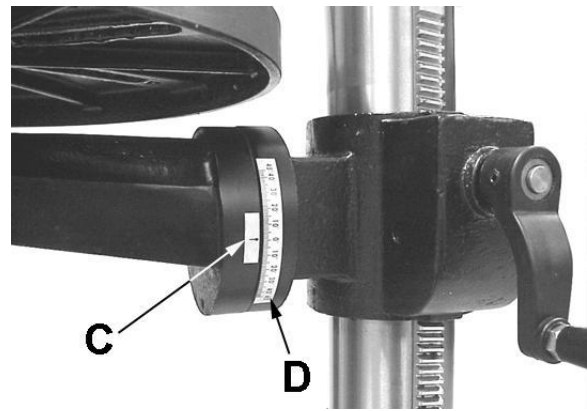

Figure 15
1. Loosen the socket head set screw (A) with a 3mm hex wrench.
2. Using a 15/16" wrench, loosen the hex cap screw (B), and tilt the table to the desired angle by aligning the arrow (C, Fig. 15) on the rotating part of the bracket to the desired angle (in degrees) displayed on the scale (D, Fig 15) at the base of the bracket.
3. Tighten the hex cap screw (B).
4. Tighten the socket head set screw (A).